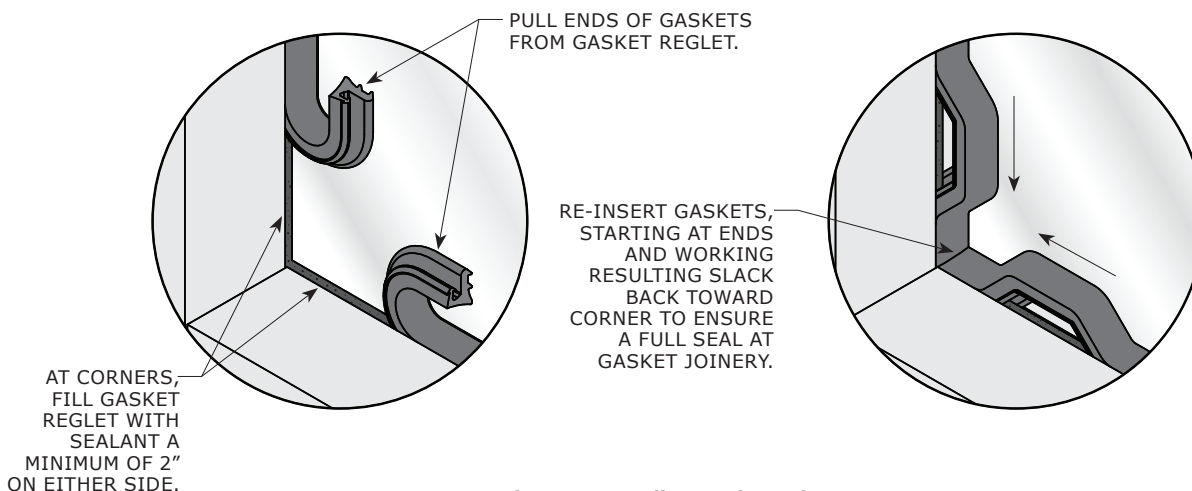

Figure 36: Sealing Gasket Joinery
7. Once all Gaskets are installed, pull ends of interior horizontal and vertical Gaskets from their reglets at each corner and fill final 2" of horizontal and vertical glazing reglets with sealant. Push vertical Gasket back into reglet at corner, then do the same for the horizontal Gasket. Compress any slack back toward D.L.O. to fully seal horizontal Gaskets to vertical Gaskets. Immediately wipe away any excess sealant. Reference **Figure 36** below.